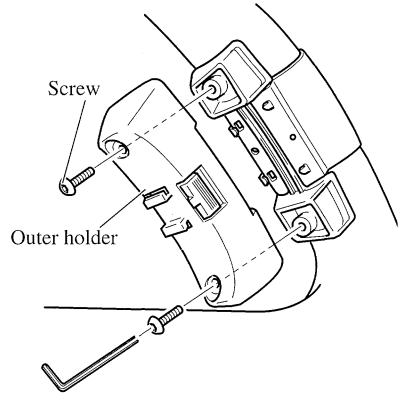

Fig. 12
3. Install outer holder on the inner holder and secure with screws. (Fig. 12)